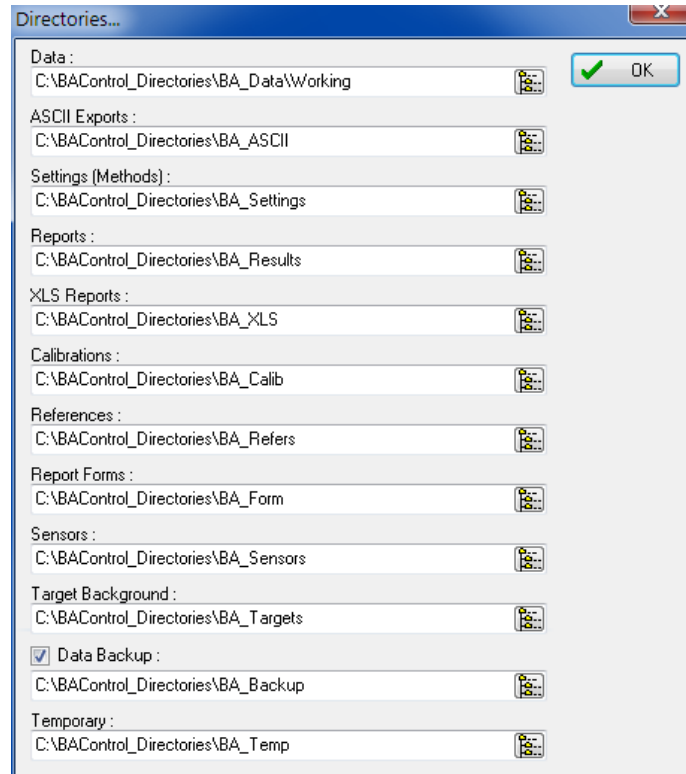

Fig. 7: Directories settings
- Run program TR 2519 Control. It appears the main program window and if program is started for the first time, it is necessary to adjust its working directories. This is possible in Settings > Directories (Fig. 7) by assigning the whole path or by listing existing directory. The content of single directories is following: